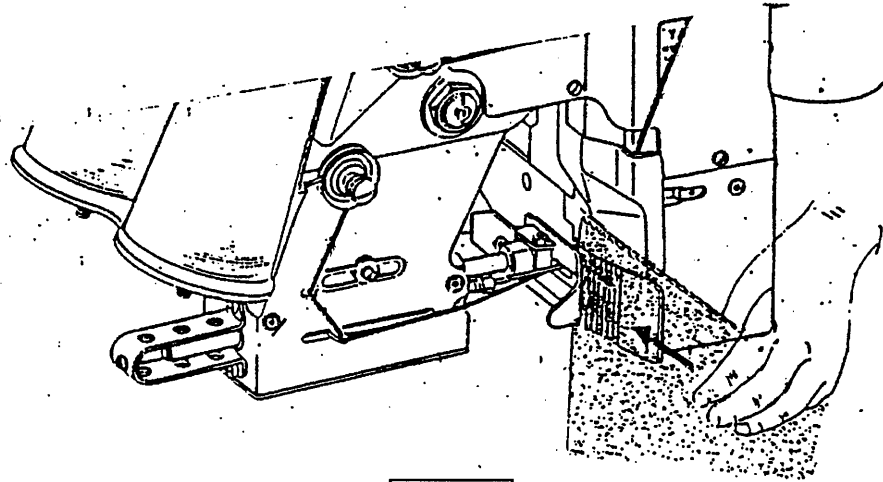
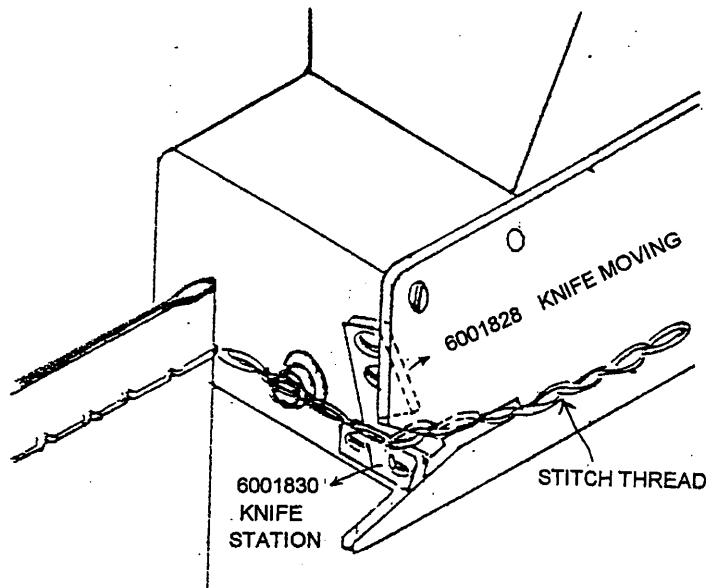

Fig. 05
Fig. 06
B. Sewing Operation. (See also Fig. 05 & Fig. 06)